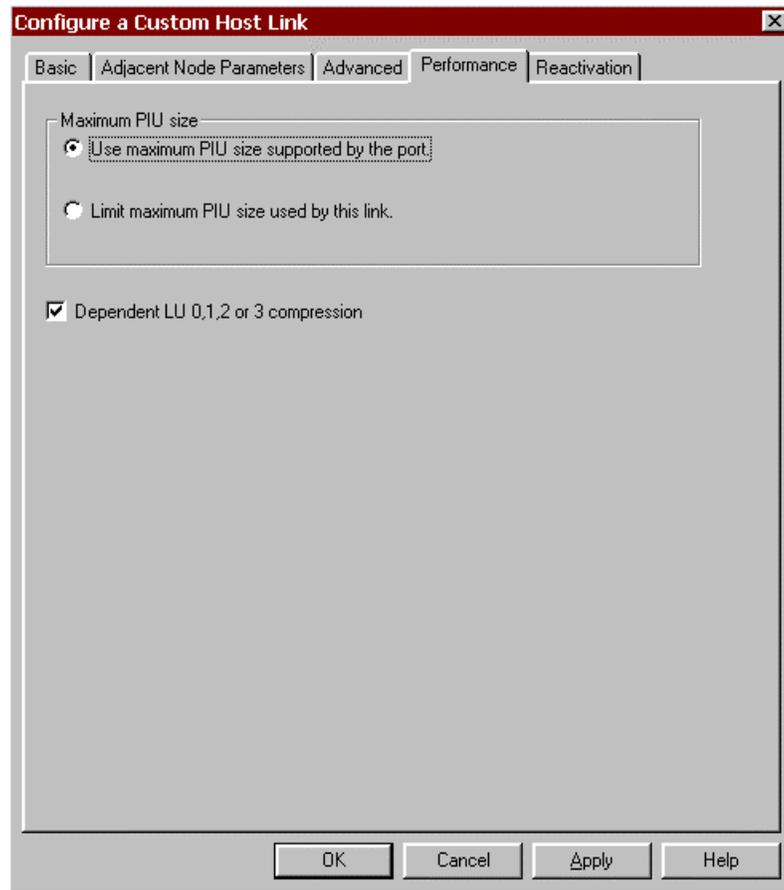

Figure 10-17. Configure a Custom Host Link - Performance
6. Click the **Performance** tab (Figure 10-17).